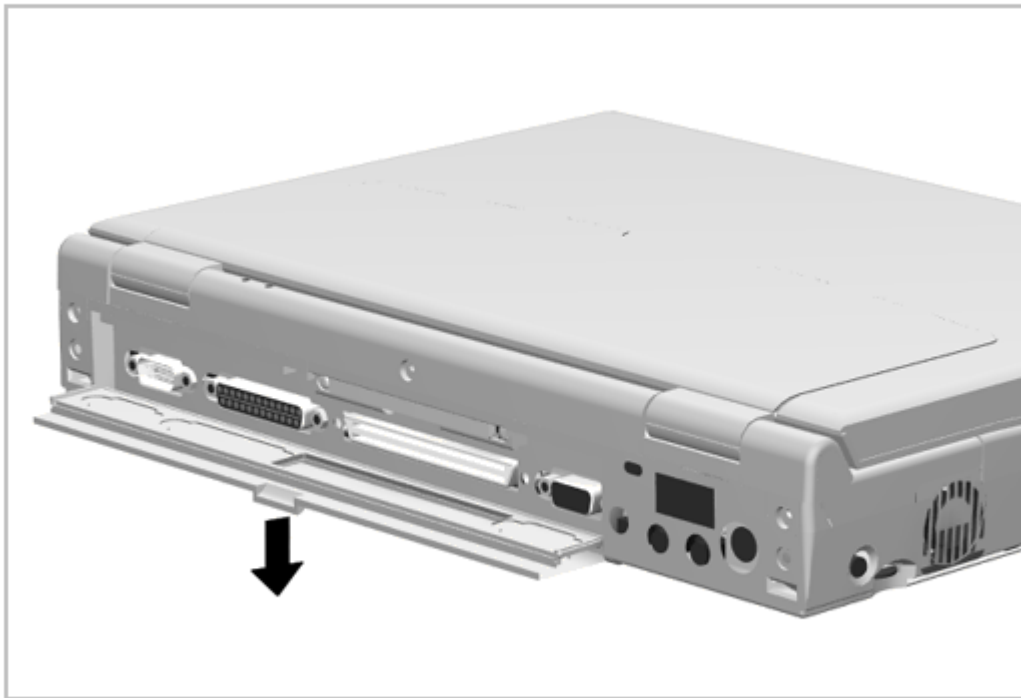

Figure 5-17. Removing the Connector Cover
2. Flex the center of the cover away from the computer (Figure 5-17) until the pivots on each end of the cover disengage the pivot holes in the computer housing.